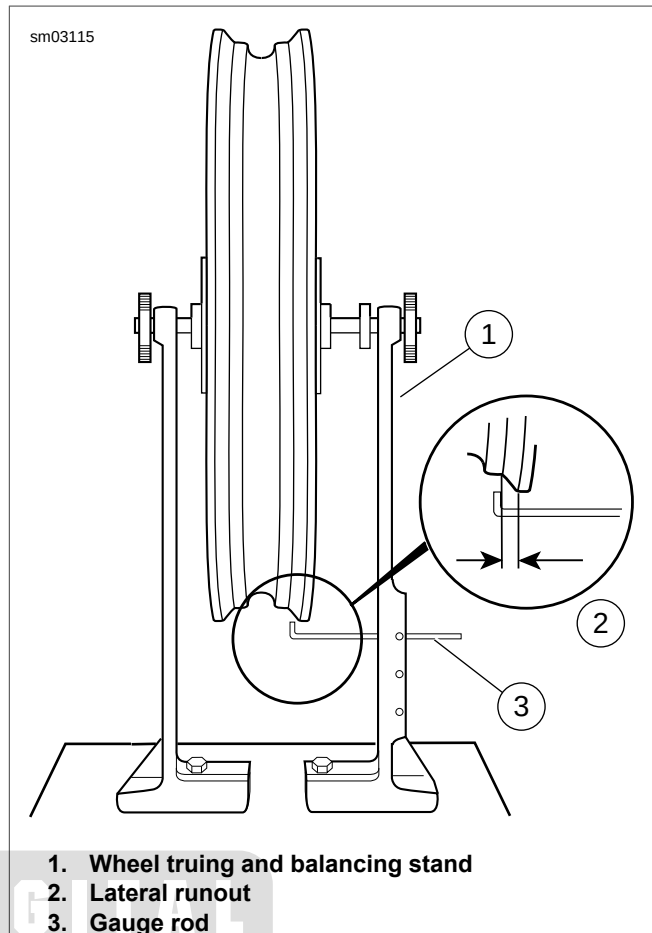

Figure 2-47. Checking Lateral Runout
- See Figure 2-47. With the wheel mounted in WHEEL TRUING STAND (Part No. HD-99500-80), adjust the gauge rod (3) near the rim bead flange.
- Rotate the rim slowly and check lateral runout (2). If runout exceeds 0.030 in (0.76 mm), adjust spokes as follows.